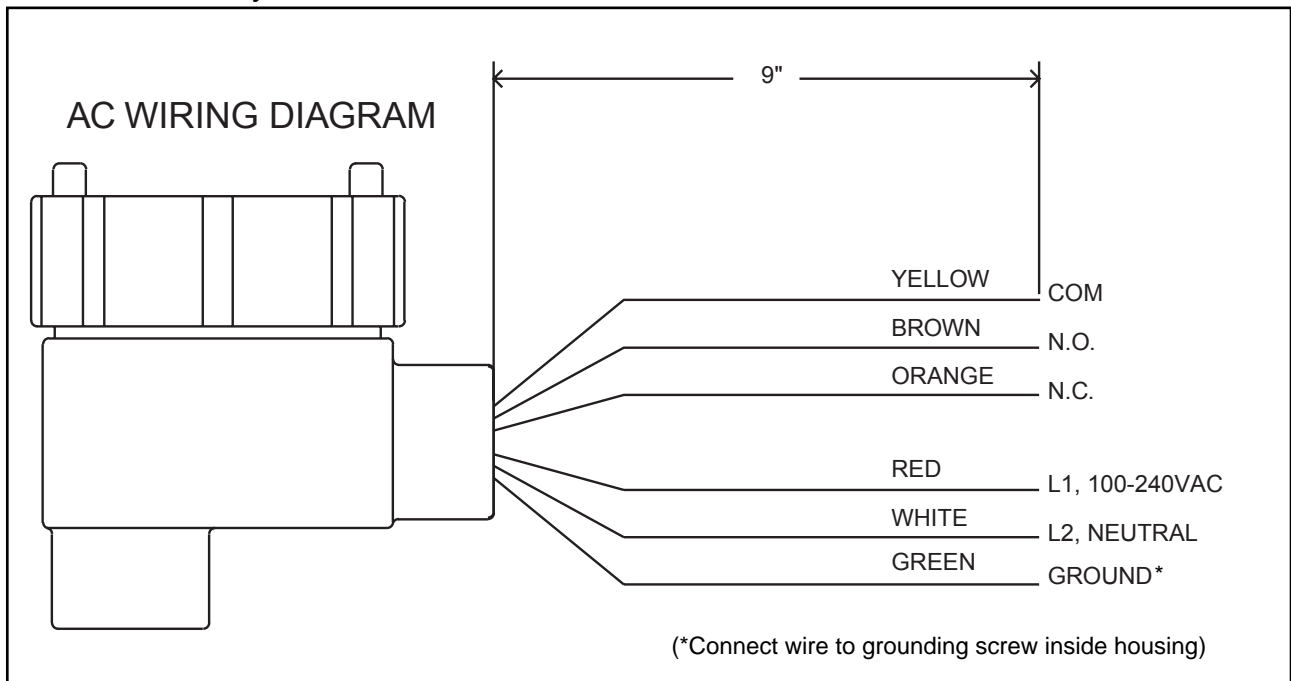
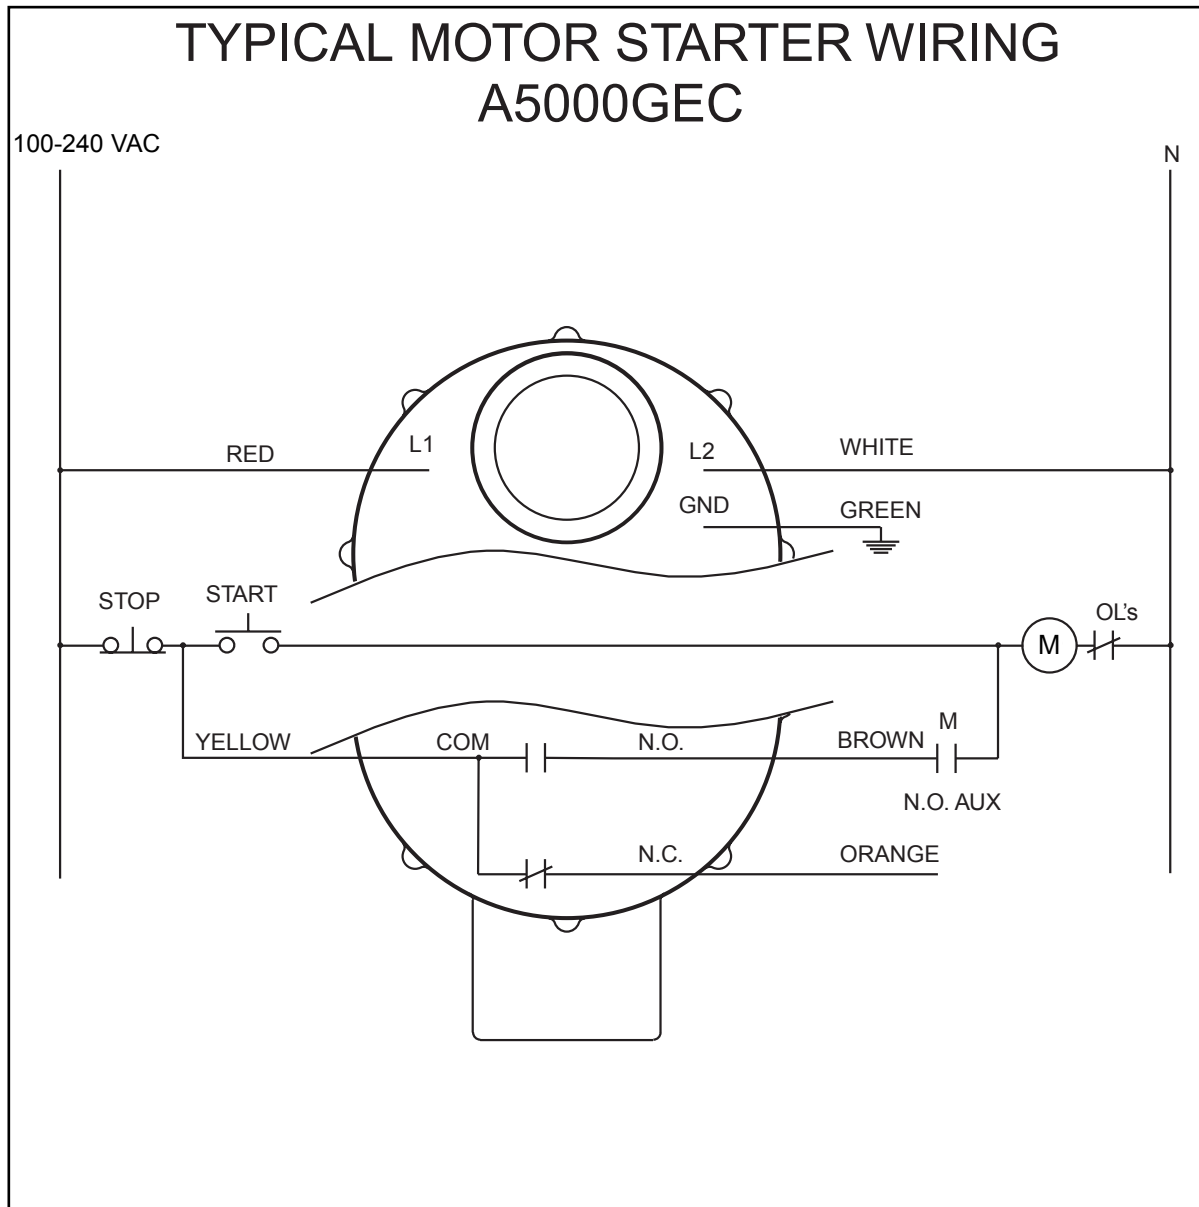

Figure 3
Figure 4
5.1 Power connections and relay connections to the A5000GEC zero speed switch are shown on figure 3, page 4. Also, figure 4 & 5, page 5 & 6 show typical wiring diagrams.
5.2 Connect 100-240 VAC power to the RED wire and neutral to the WHITE wire. Connect the equipment safety ground to the grounding screw inside the A5000GEC housing. (see figure 3, page 4)